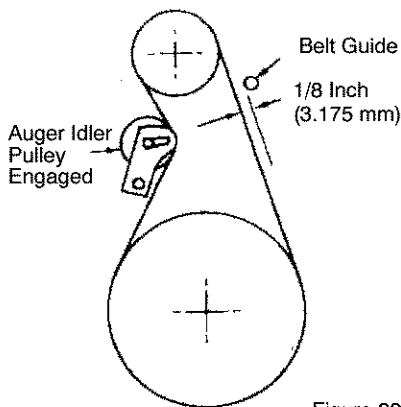

Figure 28
3. Measure the distance between the belt guide and belt. The distance should be 1/8 inch (3.175 mm) for guide. See Figure 28.